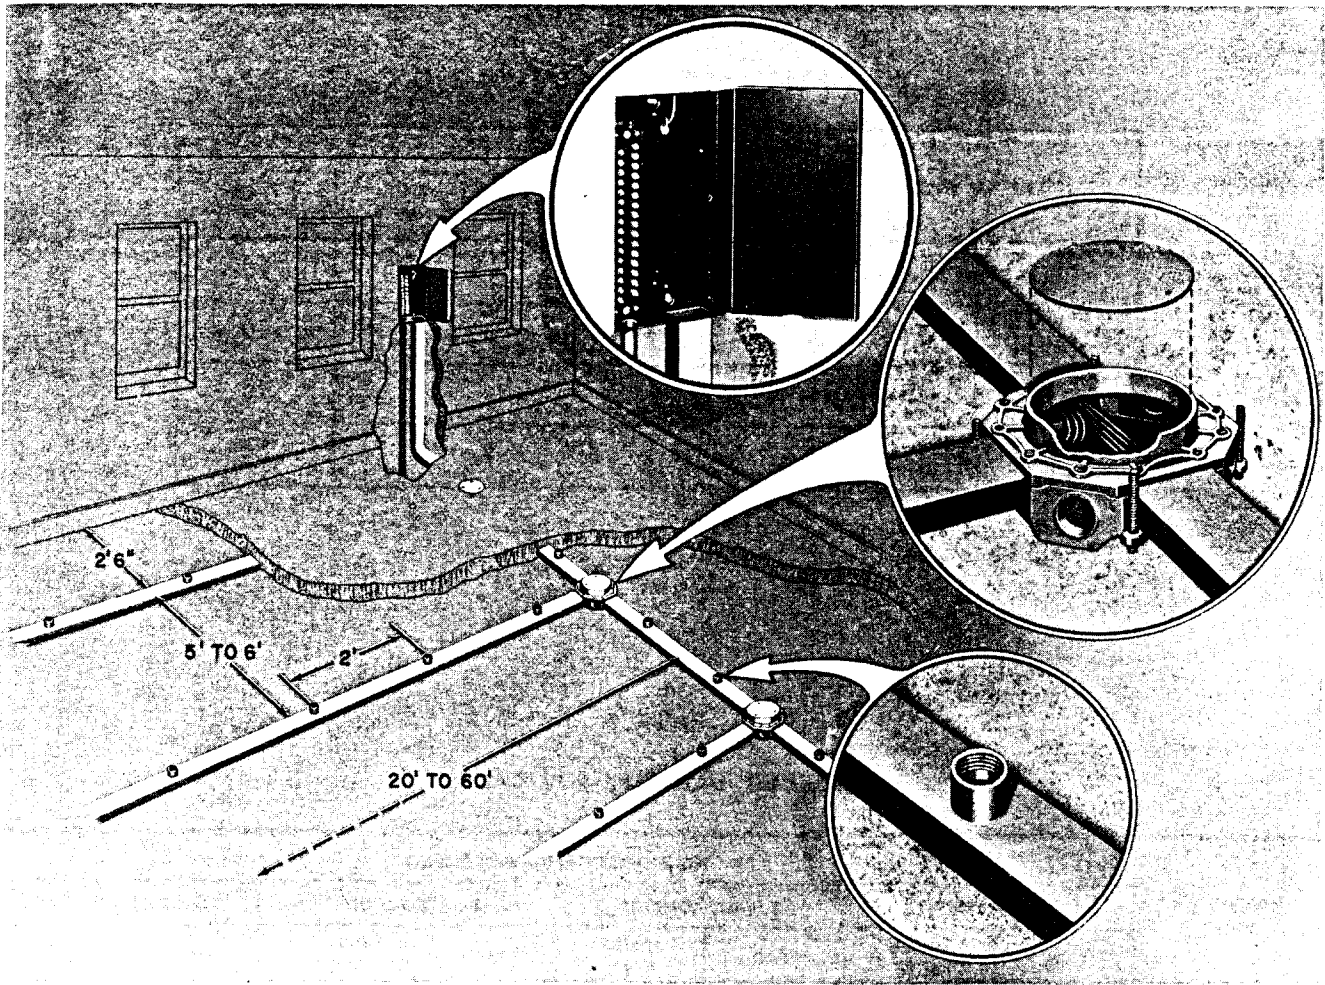

Fig. 2—Gridwork Underfloor Duct System
**2.04** The gridwork system (Fig. 2) consists of a series of parallel branch ducts with junction boxes at the intersection of cross ducts. An outlet provided with a removable cap will be found in the floor every 24 inches.